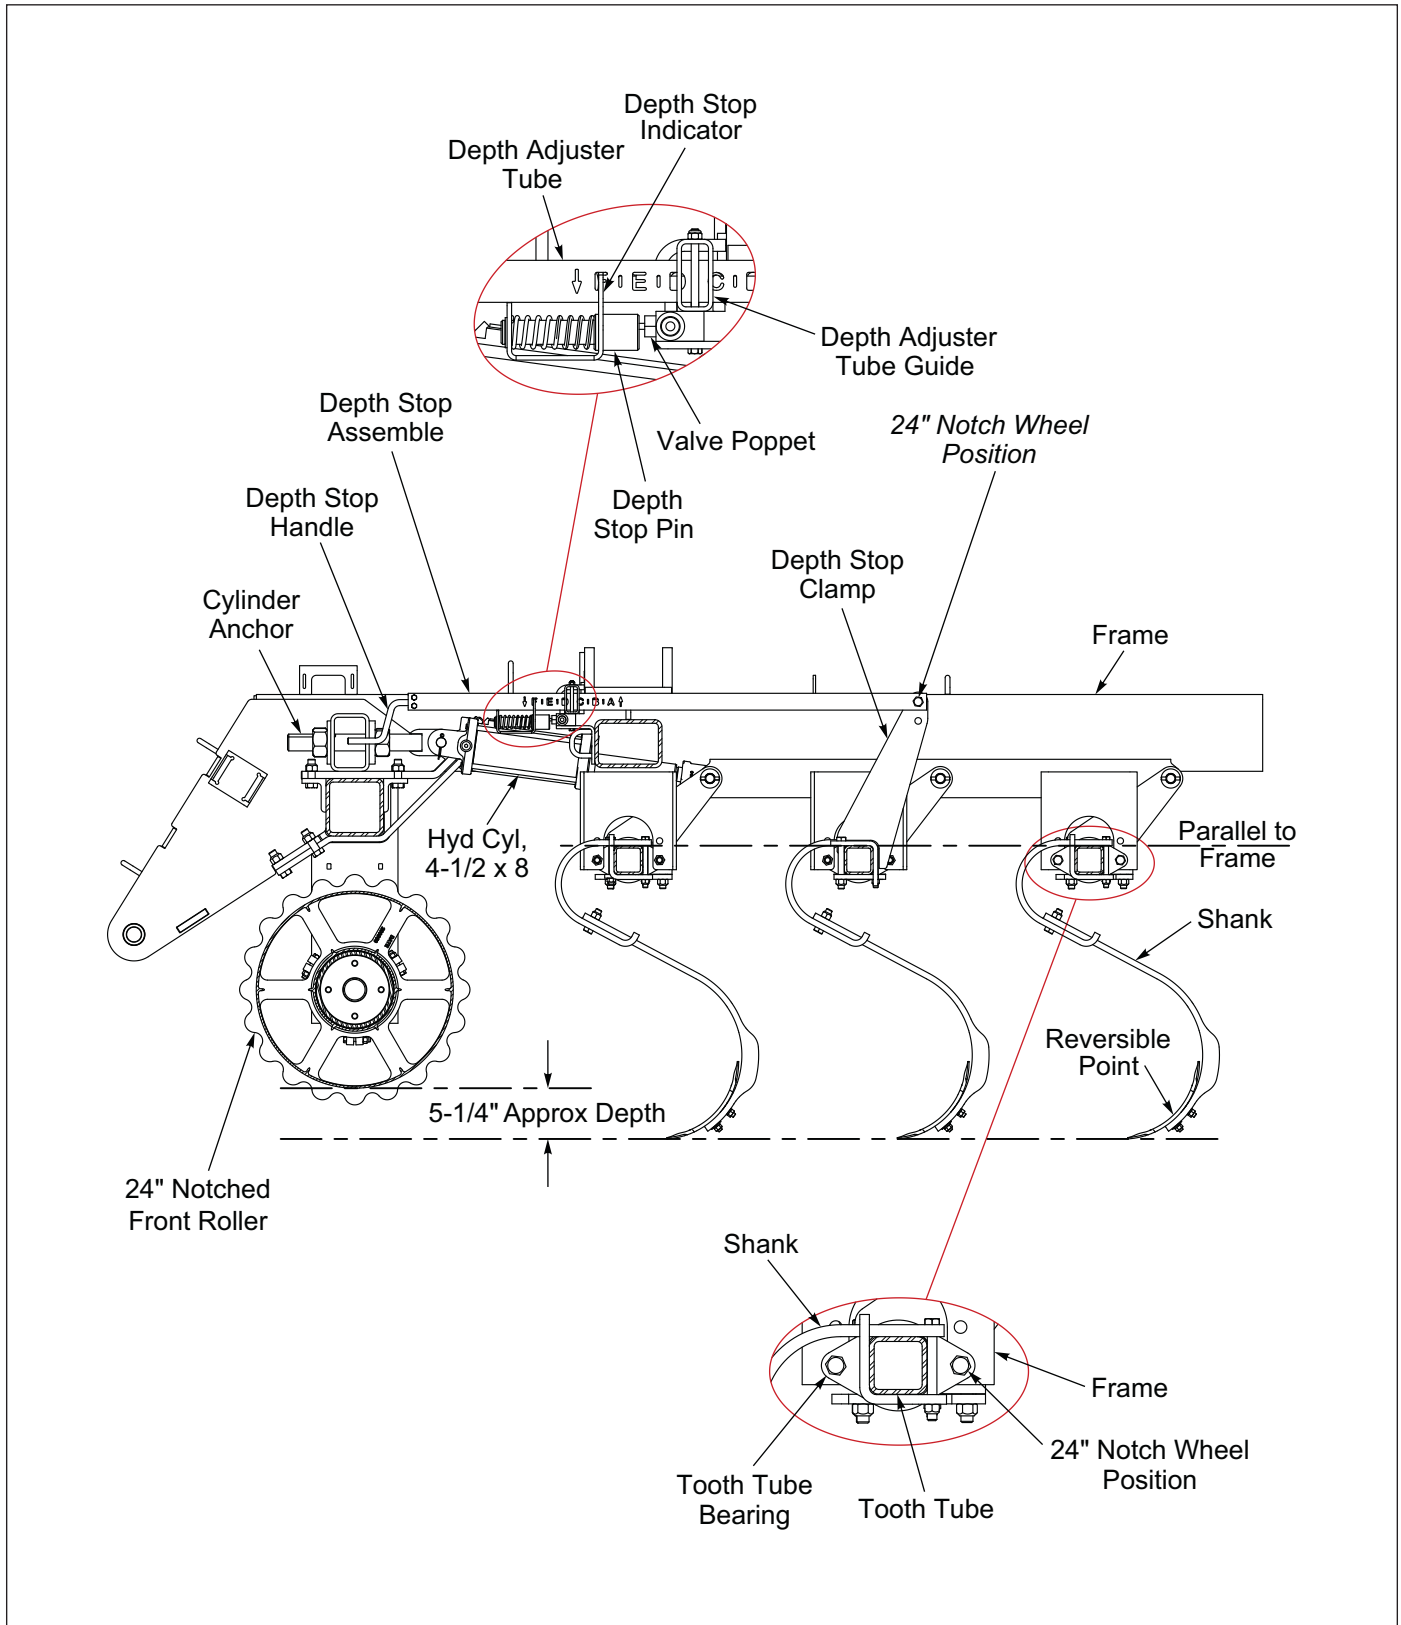

Figure 3-4: Single Point Depth Control
1. To set the anchor bolt unfold Pulvi-Mulcher, machine raised, with all tooth control cylinders fully extended. Shanks should be set with tooth tubes parallel to the frame. **See Figure 3-4.**
If making adjustment all Tooth Tube Bearing should be assembled in the same position. **See Figure 3-4.**
2. Adjust the Shank Depth by turning the Depth Stop Handle until the desired letter that matches the required shank depth is centered on the depth Stop Indicator. **See Figure 3-4.**
3. Front and Rear Rollers are used to gauge the depth of the shanks. **See Figure 3-4.**